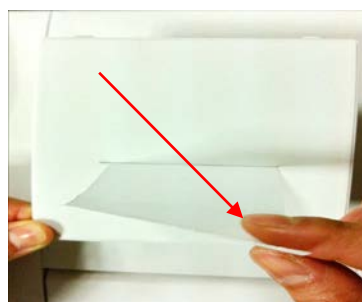

Figure 4
3.7. 3 Put the printer paper out of printer cover plate,cover the plate (figure 4).